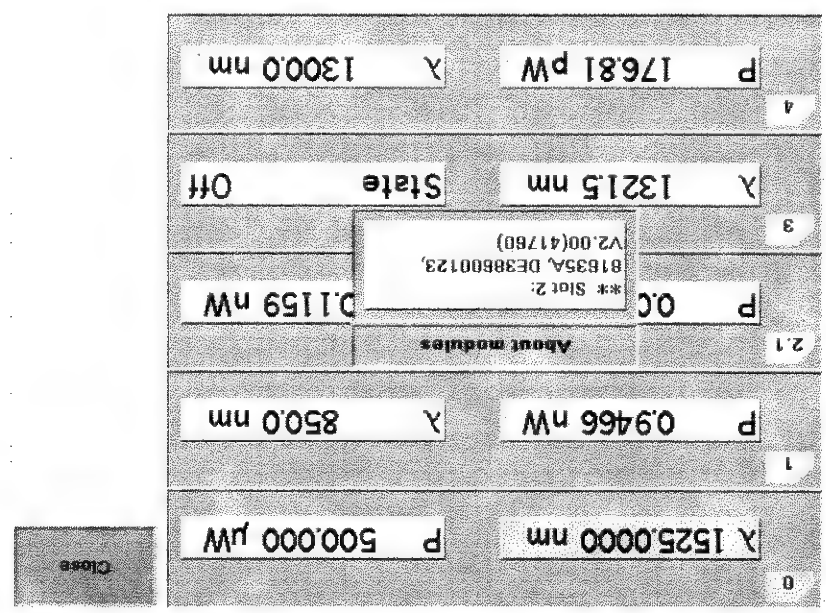

Figure 35 Viewing Information About a Module
- 4 The part number, serial number, and firmware revision of the chosen module are displayed, as shown in Figure 35.